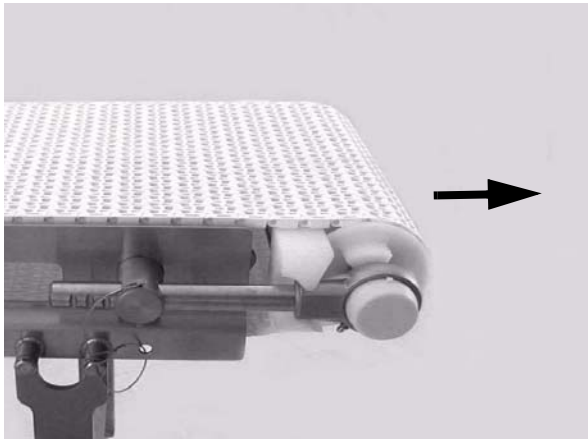

Figure 56
- Continue extending the tension end until the belt is sufficiently tight (**Figure 56**).